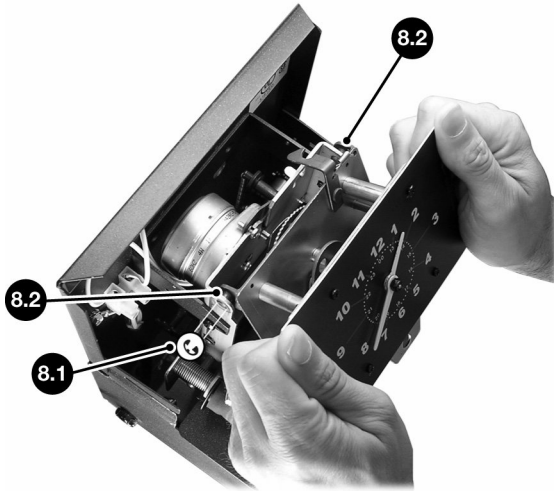

Figure 8
2. Remove **Type Section Retaining Ring and Washer- Figure 8, 8.1.**
4. Lift type section slightly and move it to the right to release **Hinge Pins - Figure 8, 8.2** from their sockets. The Type Section will lift out.